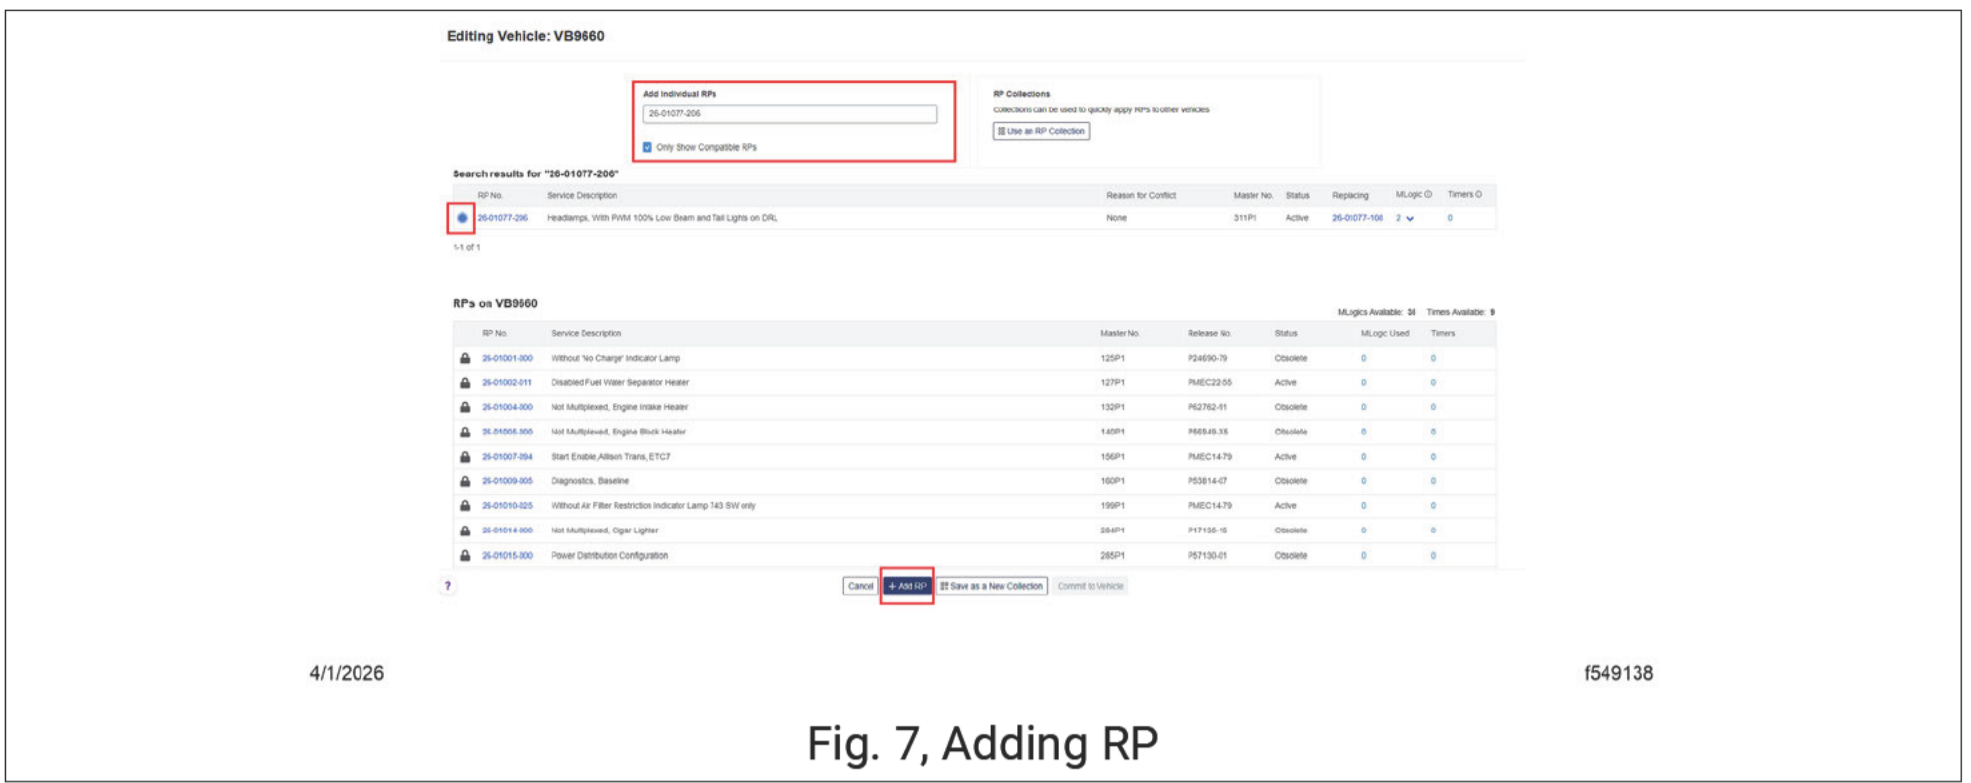

Fig. 7, Adding RP
13. Type in the RP found in the table listed as new RP. Select 'Add RP' See Fig. 7.